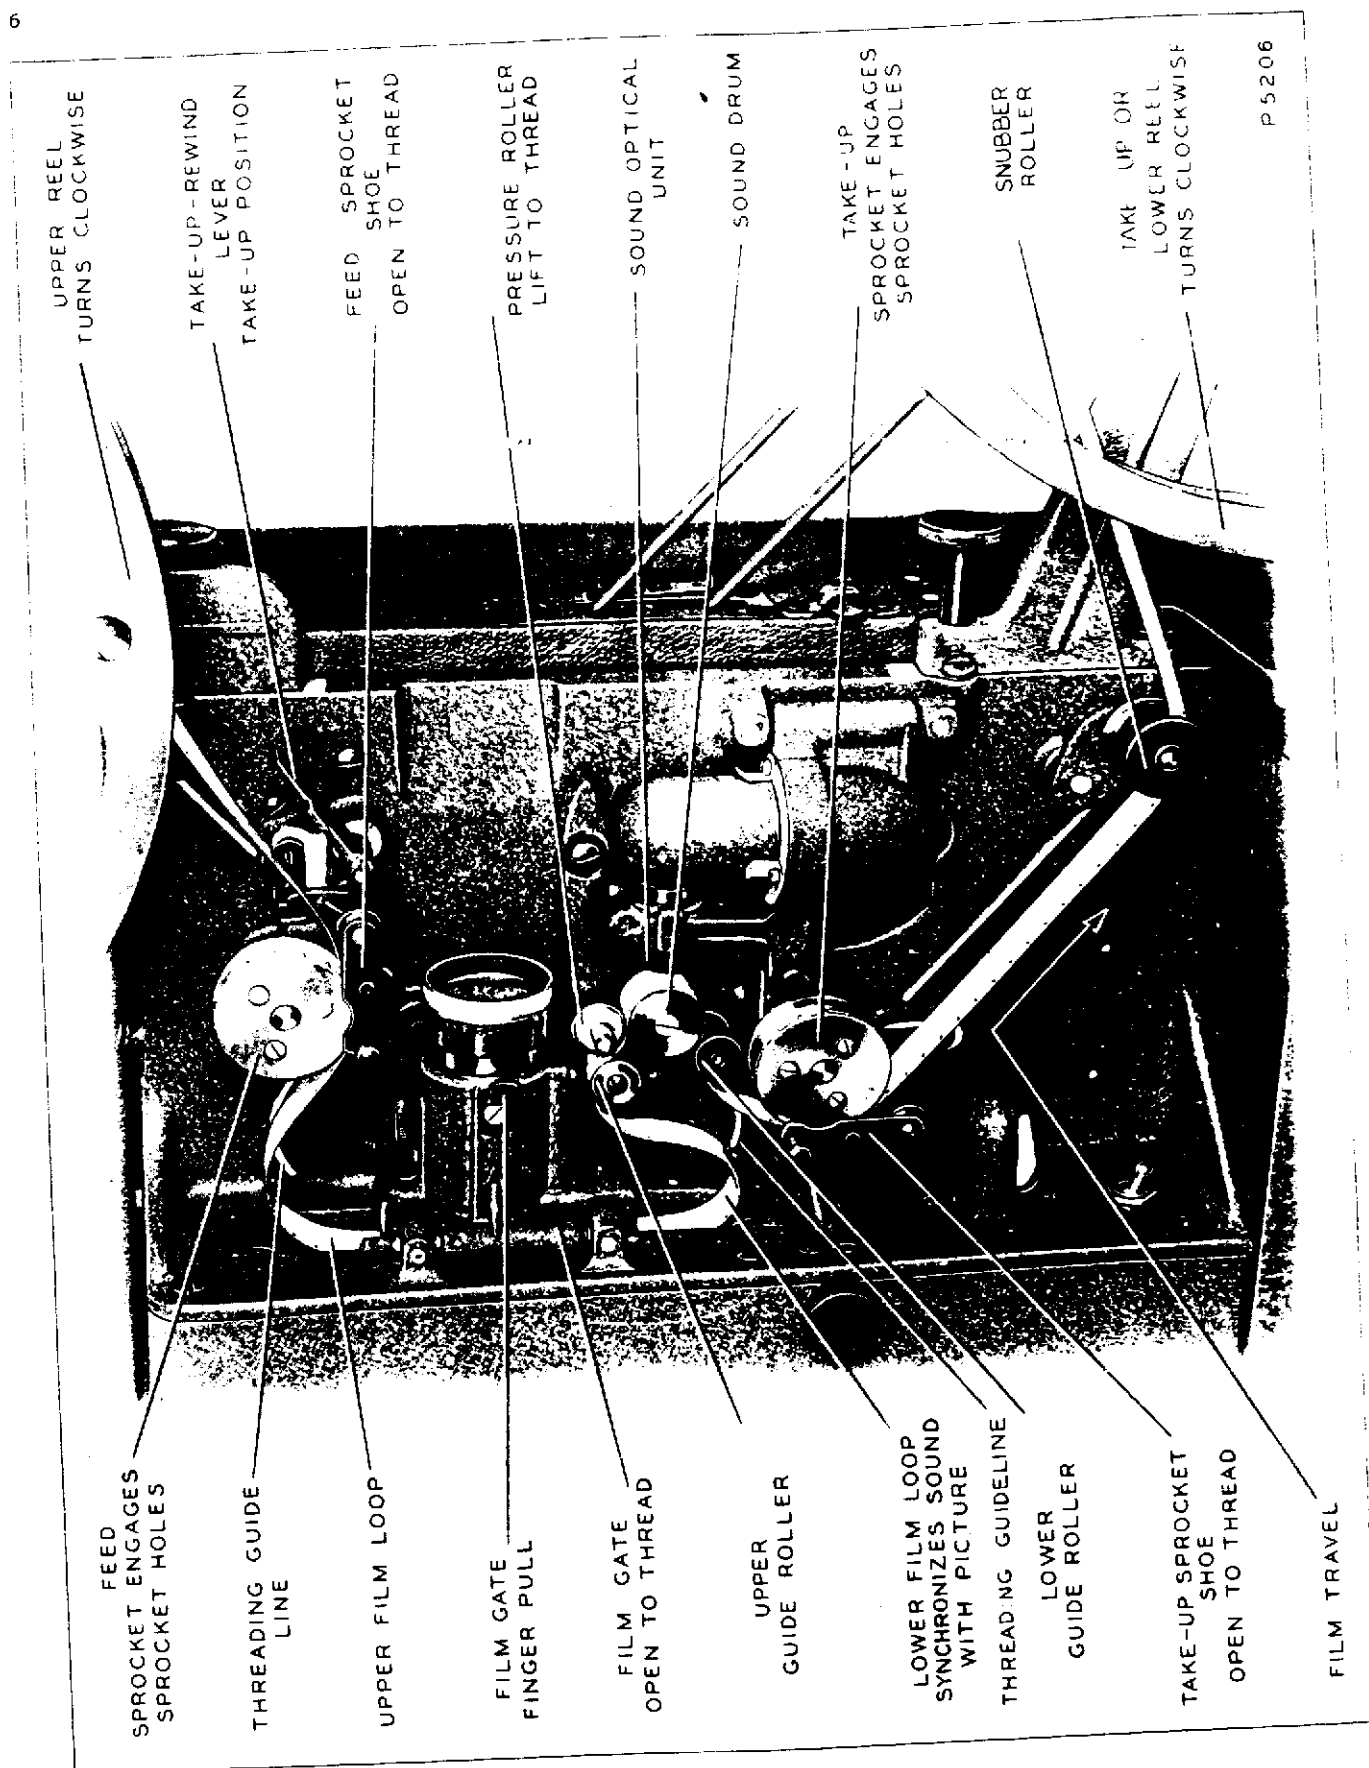

Figure 5—Projector Correctly Threaded
8. White guide lines on the frame of the projector (fig. 5) show the proper path of the film through the machine. (Also see diagram in projector cover.) The two film loops, one above and the other below the film gate, must be maintained for proper operation. Detailed threading procedure follows: